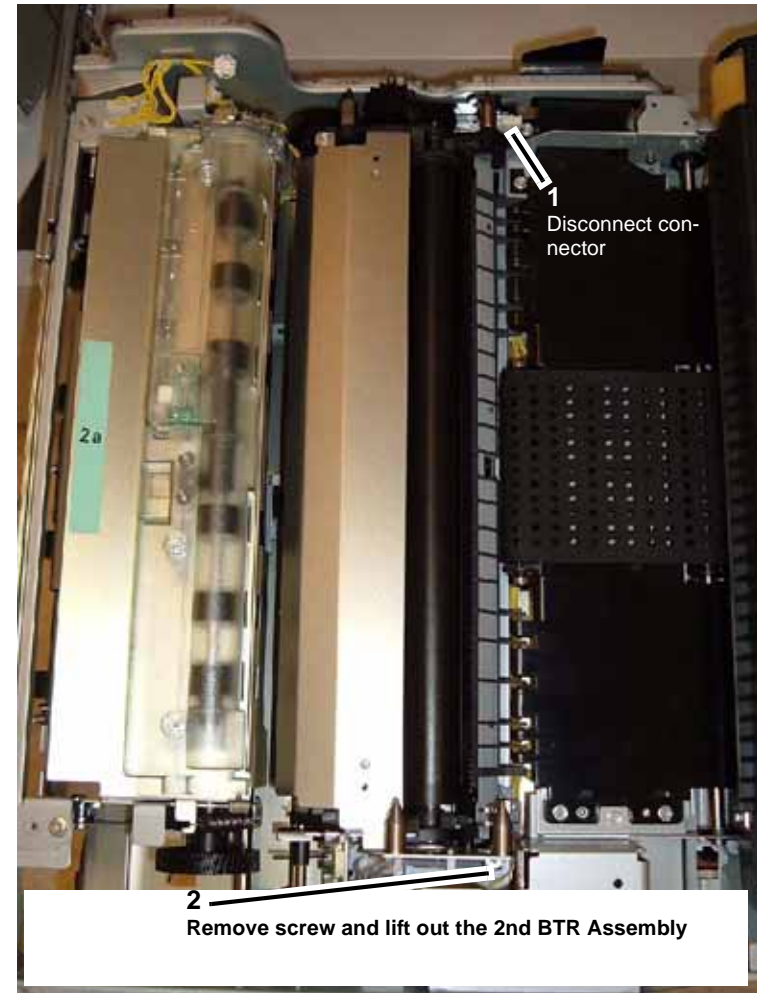

Figure 5 Removing the 2nd BTR Assembly
6. Remove the 2nd BTR Assembly (Figure 5).